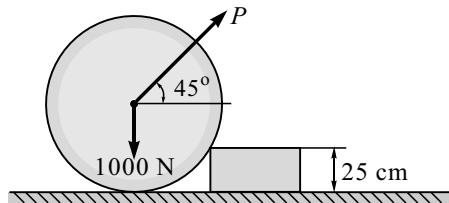

Fig. 3.E18
19. A roller of radius 400 mm, weighing 4 kN is to be pulled over a rectangular block of height 200 mm as shown in Fig. 3.E19, by a horizontal force applied at the end of a string wound round the circumference of the roller. Find the magnitude of the horizontal force P and the reaction at B , which will just turn the roller over the corner of the rectangular block. Also, determine the least force and its line of action at the roller centre, for turning the roller over the rectangular block.